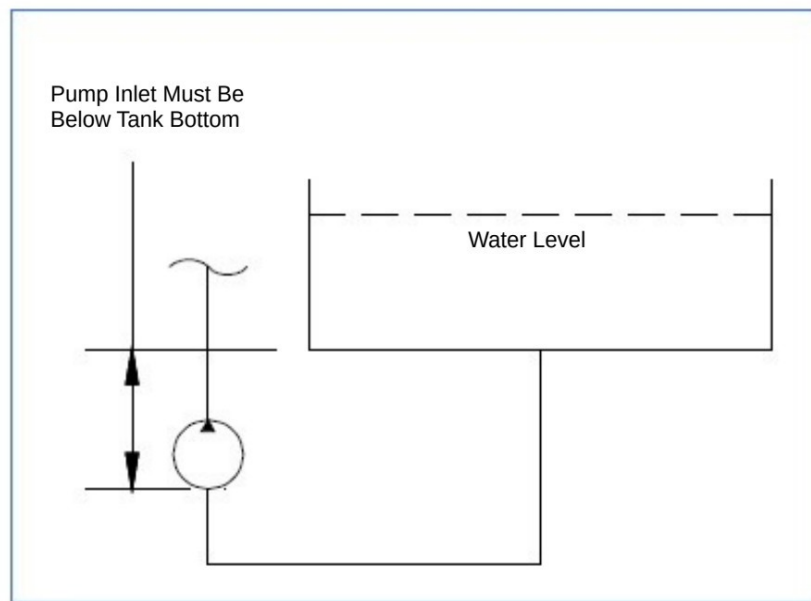

Figure 4.4 – Gravity Feeding Source
1. Gravity feed water source: CaviDyne, LLC feed pump system not required (see **Figure 4.4**). Requires connection hose with a minimum diameter of 1-¼" between the water tank and the Power Unit and must be above the main pressure pump inlet. The gravity feed system must be capable of consistently providing at least 30 GPM (114 LPM).
1. Locate the water supply tank so that the bottom of the tank is higher than the water inlet on the control panel (See **Figures 4.4 and 4.6**).
Ensure that the water source can reliably deliver the maximum pump flow of 20 GPM (76 LPM). A minimum flow of 30 GPM (114 LPM) is recommended to ensure that the pump is not starved of water. If connecting to a tank, locate the bottom of the tank above the water inlet connection on the power unit to ensure a flooded suction line. (See **Figure 4.4**)